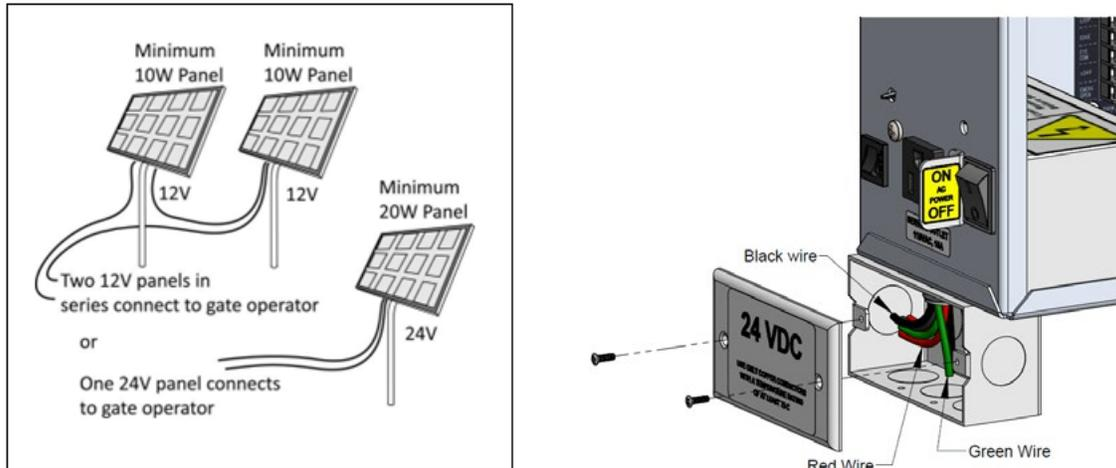

Figure 18. Solar Panels and Wiring Connections
4. Wire nut or crimp bond the solar panel wires to the black and red input wires. See **“Figure 18. Solar Panels and Wiring Connections” on page 75.**